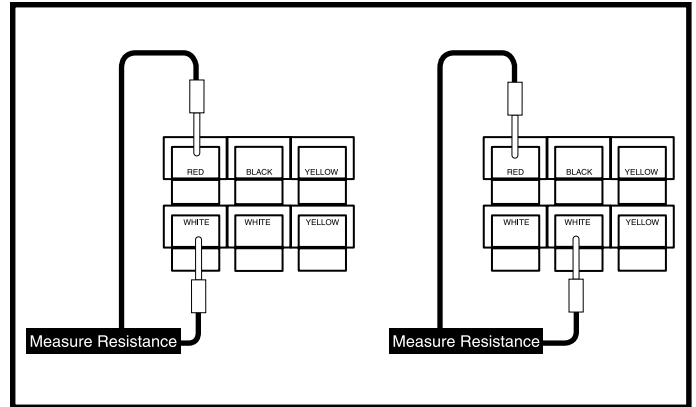

Figure 15. Connector 7a
6. Measure resistance from pin 1 (red) to pin 4 (white) then from pin 1 (red) to pin 5 (white) on connector 7a. **See figure 15.**
- If your multimeter indicates an open for each test, then replace the power interface harness (2) and retest the system.
- If your multimeter indicates a short or a relatively low resistance (less than 1M ohm) for either test, then replace the left motor (7) and retest the system.